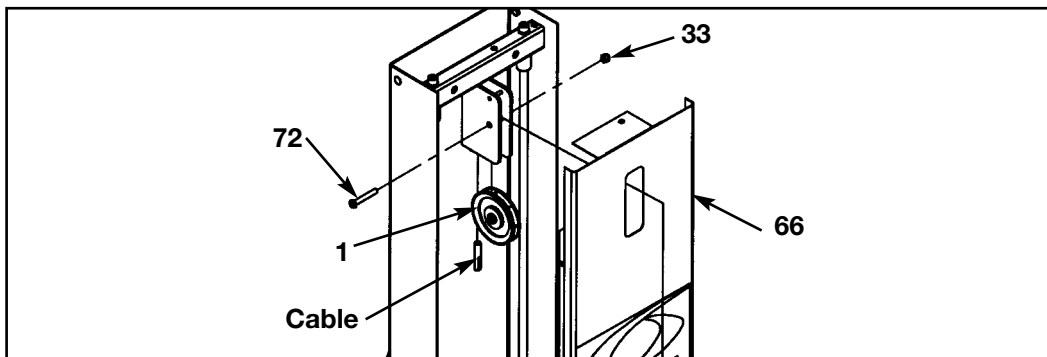

Figure 19
- C.** With top part of back cover (#66) leaned back, route cable/install pulley (#1) using one BHSCS .375-16 x 2.50 (#72) and one nylon locknut .375-16 (#33). See Figure 19.